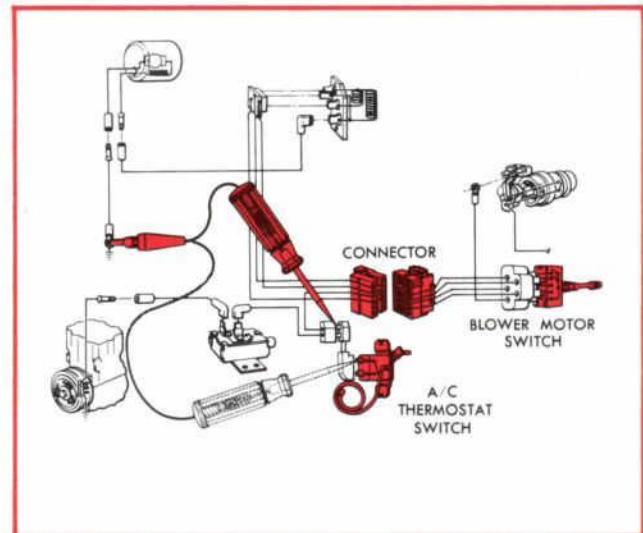

Figure 19—Testing Thermostatic Switch
4. To test the thermostatic switch, move the probe to the input terminal (Fig. 19). If the light glows now, but did not before, the thermostatic switch isn't functioning and should be inspected and tested.